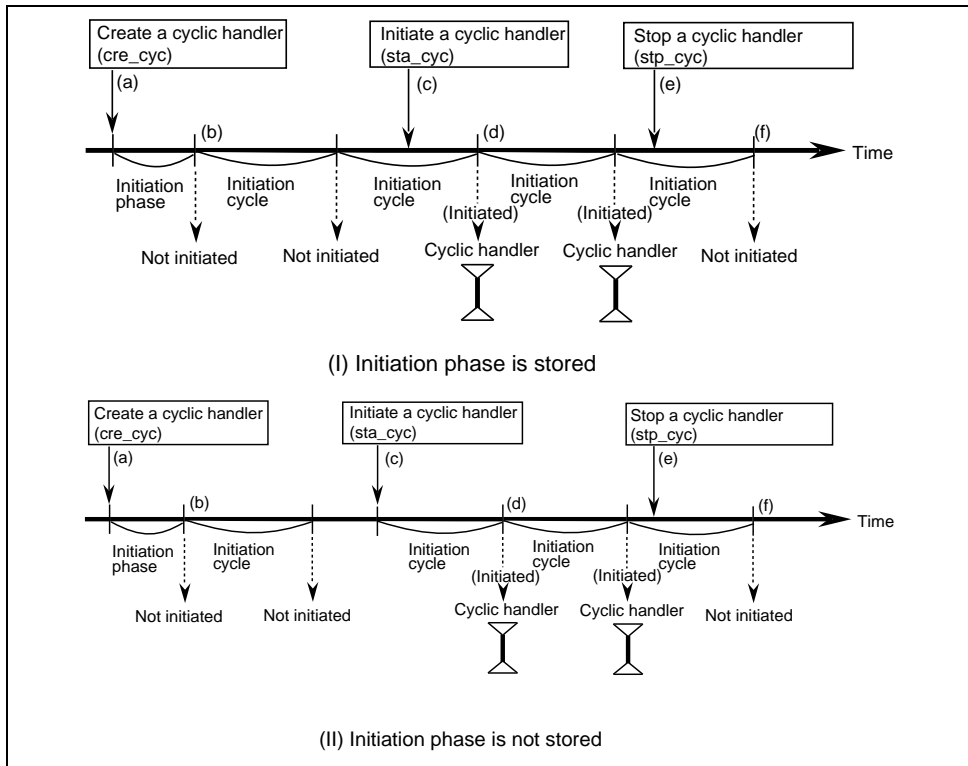

Figure 2.15 Example of Using Cyclic Handler
Figure 2.15 shows an example of using cyclic handler.
- (c) When the initiation phase is stored as shown in (I) in figure 2.15, the cyclic handler is initiated based on the initiation cycle after the cyclic handler has been created. When the initiation phase is not stored as shown in (II) in Figure 2.15, the cyclic handler is initiated based on the initiation cycle after the `sta_cyc` service call has been issued.